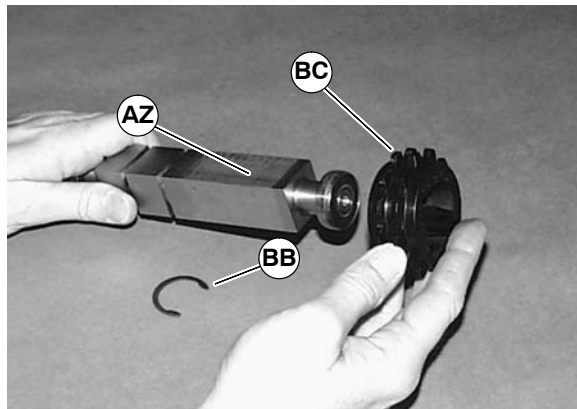

Figure 38
2. Install drive sprocket (BC of Figure 38) with snap rings (BB) to pulley (AZ).